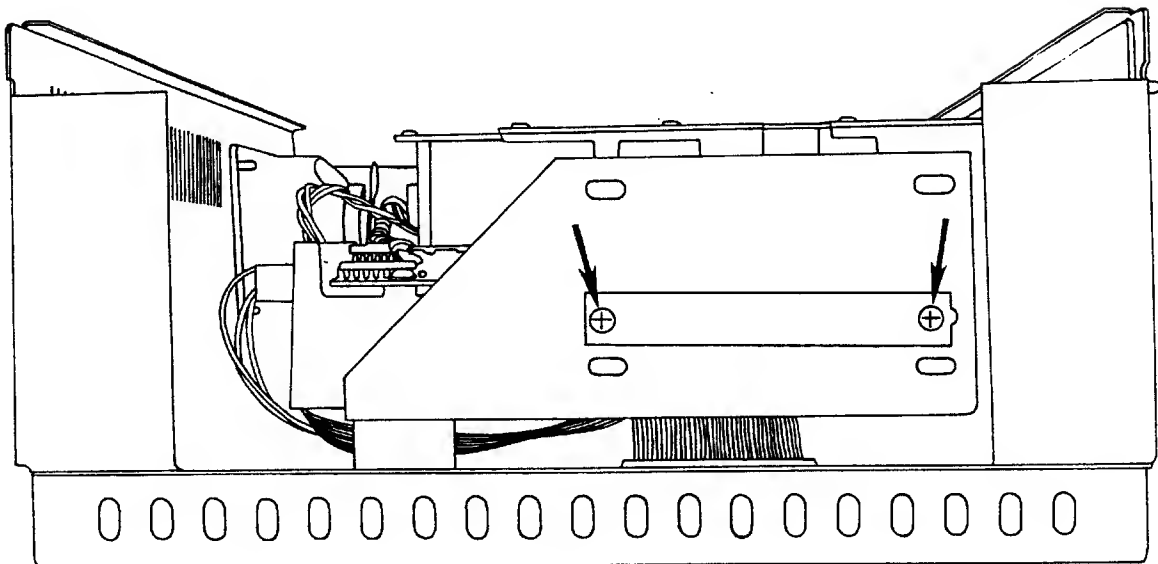

Figure 6-3: Floppy Disk Drive Removal
3. Remove the two side mounting screws from the floppy disk drive (see Figure 6-3). These screws are located on the left side of the drive, as you face the front of the unit.